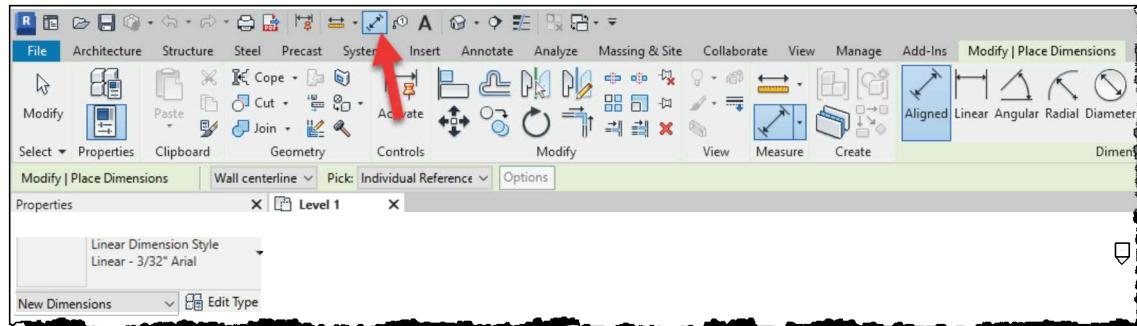

FIGURE 7-6.1 Ribbon, Option Bar and Type Selector: Dimension tool active
Notice the *Ribbon*, *Options Bar* and *Type Selector* changes to give you control over the various options mentioned above (Figure 7-6.1).
- Next, select **Wall Faces** on the *Options Bar* (Figure 7-6.1).